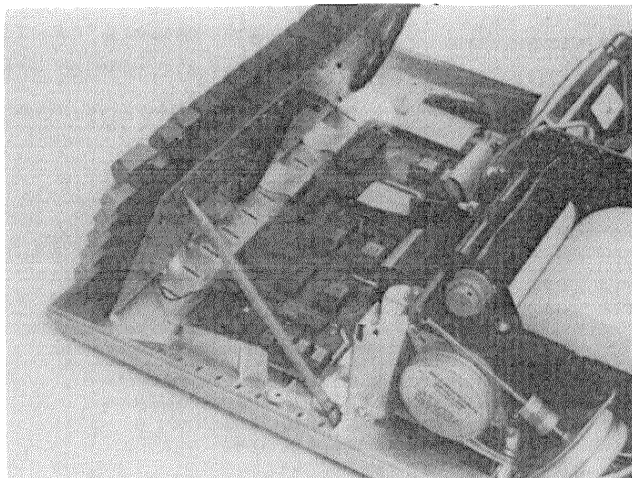

Figure 4-1. Keyboard Assembly Propped Up
- b. Prop the keyboard up so that you can access the keyboard controller. (See figure 4-1.) Do not remove the keyboard from the bottom case. Leave the original ribbon cables connected at both the logic PCA and the keyboard PCA; do not substitute extender cables.
- a. Prop the keyboard up so that you can access the keyboard controller. (See figure 4-1.) Do not remove the keyboard from the bottom case. Leave the original ribbon cables connected at both the logic PCA and the keyboard PCA; do not substitute extender cables.